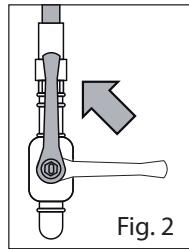

Fig. 2
- Open the cut-off cock upstream the machine (Fig. 2);
- Reassemble the screw with gas seal washer in the appropriate seat, open the cut-off cock upstream the machine (Fig. 2) and check there are no gas leakages.